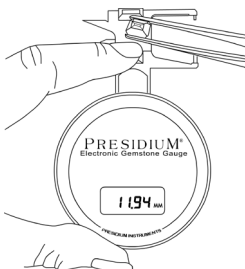

Fig. 2.2
- When measuring loose stones, pull the Slider (Fig. 2.2) and place the stone on the Slider platform. The base of the stone should be parallel to the platform to prevent it from moving.